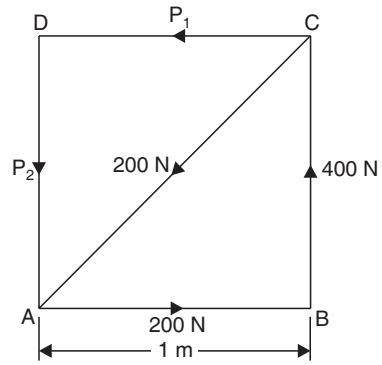

Fig. 3.63
18. A square  $ABCD$  has forces acting along its sides as shown in Fig. 3.63. Find the values of  $P_1$  and  $P_2$ , if the system reduces to a couple. Also find magnitude of the couple, if the sides of the square is 1 m.